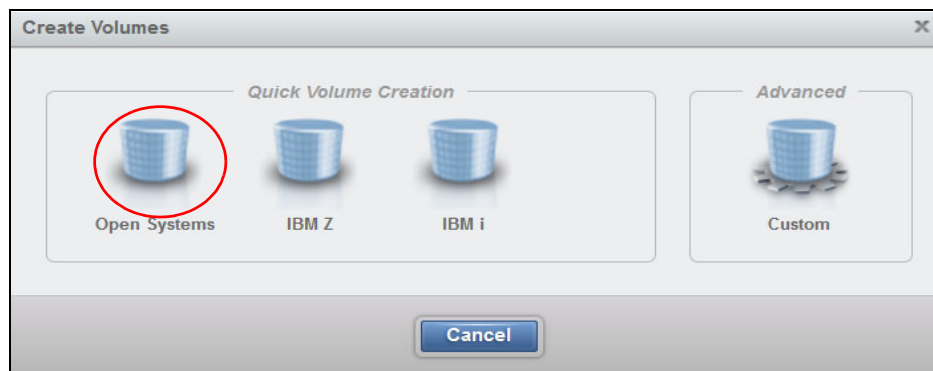

Figure 11-50 Create Open Systems (FB) volumes by using the Quick Volume Creation option
1. On the Create Volumes window, click the **Open Systems** icon, under Quick Volume Creation, as shown in Figure 11-50.
1. Click the **IBM i** icon under Quick Volume Creation, as shown in Figure 11-50 on page 317.